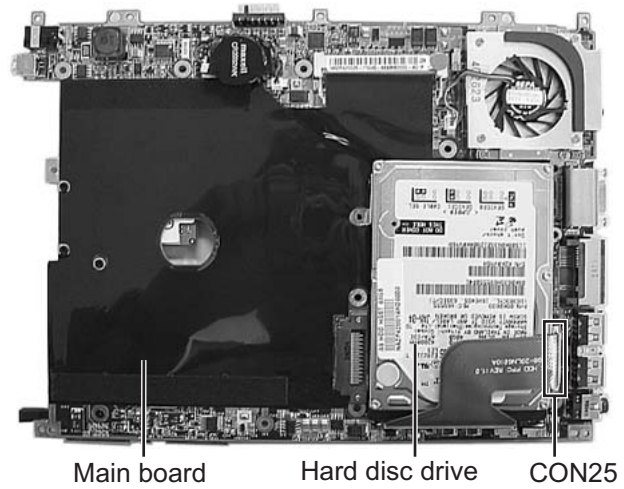

Fig.15
3.1.9 Removing the parts on the main board(See Figure 15 and Figure 16)